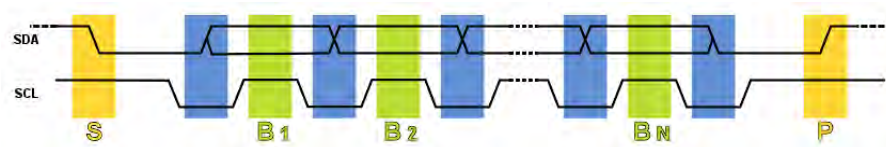

Figure 15: Data and Clock line pulses (picture from Wikipedia)
On low-level view the I²C protocol looks like figure 15. The transfer starts by sending a start byte (S), the Data line (SDA) is pulled low, while the Clock line (SCL) stays high. Then, SDA sets the transferred bit while SCL is low (blue) and the data is received when SCL rises (green). When the transfer is complete, a stop byte (P) is sent by pulling SDA up, while SCL also remains high.